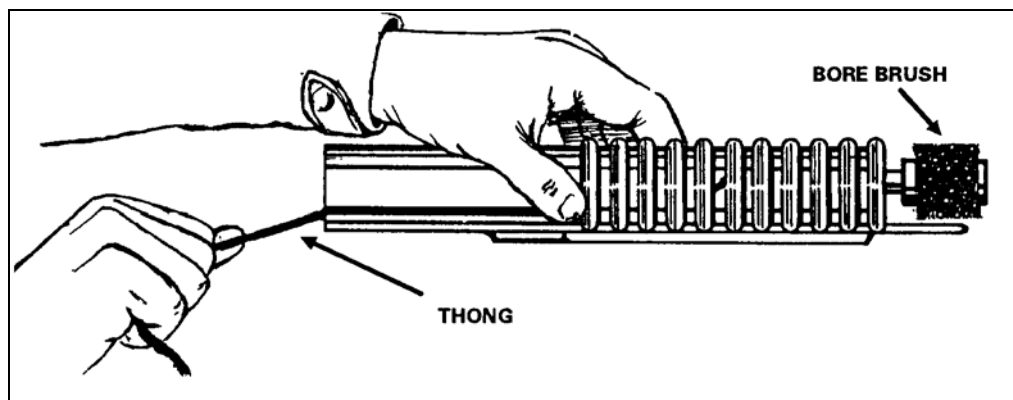

Figure 3-21. Cleaning the barrel with thong and bore brush.
a. **Bore.** Attach a clean, dry rag to the thong and thoroughly moisten the rag with CLP. Pull the rag through the bore several times. Attach the bore brush to the thong, pull it through the bore several times, and follow this with more rags moistened with CLP (Figure 3-21). Pull dry rags through the bore, and inspect each rag as it is removed. The bore is clean when a dry rag comes out clean. Finally, pull a rag lightly moistened with CLP through the bore to leave a light coat of lubricant inside the barrel.